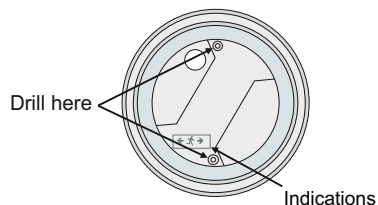

Figure 5
Step 3. Drill 2 holes on the base (Figure 5) using a 4mm drill bit in order to permit the retaining screws to pass. Mark these two drilled points on the required mounting location, drill the holes and install the supplied plastic plugs. **ATTENTION!!** Especially for the GR-270 and GR-272 luminaire installation on the ceiling you must align the base with the indications on the luminaire's base.